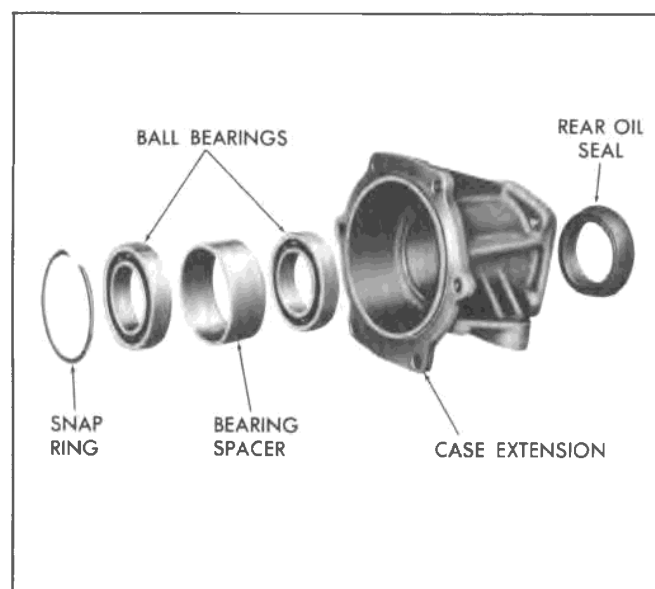

Fig. 7A-133C--Model CL Case Extension
1. Inspect modulator assembly for any signs of bending or distortion (Fig. 7A-134C).